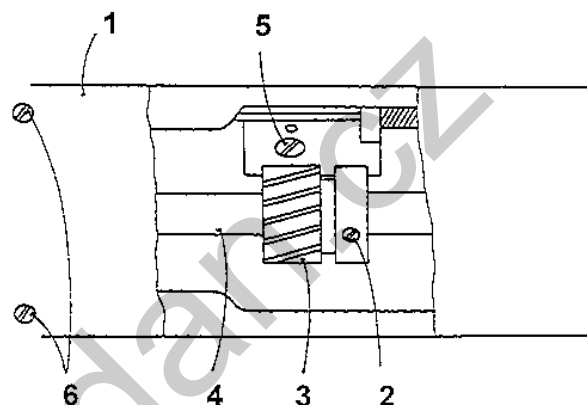
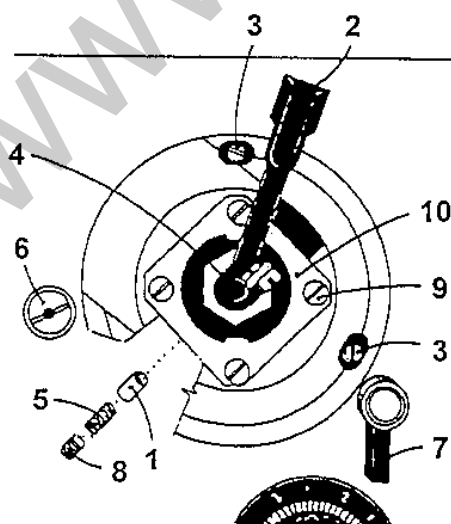
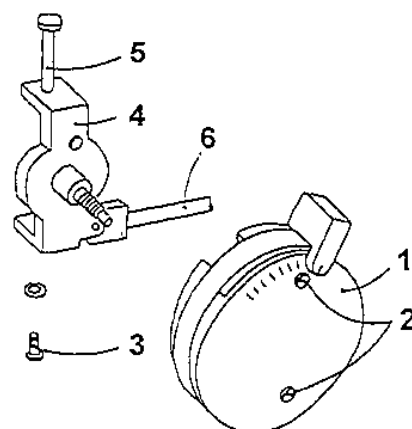

Fig. 11
Fig. 12
Fig. 13
18. To adjust the needle bar lateral movement (Fig. 11)
19. To adjust the control force required for stepless adjustment of the zigzag stitch width (Fig. 12, 13)
For the stepless tilting of the zigzag stitch bracket, the inlay (10, Fig. 12) of the body of the zigzag stitch mechanism contains the braking roller (1) with the spring (5) and with the adjustment screw (8). Turning the screw to the right increases the pressure exerted on the roller and, consequently, the force required to adjust the stitch width. A mechanism actuated by the lever (7) serving to fix the adjusted stitch width must be turned to the left prior to proceeding to the stitch width adjustment which is carried out by the lever (2) whose extreme left position, defined by a stop, produces the zero zigzag stitch width that can be increased up to 10 mm by displacing the lever to the right. The number marking on the cover (1, Fig. 13) shows the approximative stitch width value at each lever position.
To adjust the control force, first take the complete zigzag stitch mechanism out of the machine arm column. For this purpose, screw out the two screws (2) from the body of the mechanism, remove the cover (1), screw out the three attachment screws (3, Fig. 12) from the body of the zigzag stitch mechanism, then screw out the securing screw (3, Fig. 13) on the pin (5), remove the pin from the guiding (4), loosen the fixing lever (7, Fig. 12) and take the pin (6, Fig. 13) out of engagement, thus releasing the body of the zigzag stitch mechanism that can be then taken out of the machine arm. For the assembly, proceed inversely.
20. To adjust the tooth play of the zigzag transmission mechanism (Figs. 11, 12)
The tooth play of the zigzag stitch transmission mechanism is actuated by the eccentric pin (6, Fig. 12). To adjust the tooth play, first screw out the four attachment screws (6, Fig. 11), remove the upper cover (1), and loosen the screw (5) located in the lug of the machine arm. By turning then the eccentric pin (6, Fig. 12) adjust the tooth play of the zigzag transmission mechanism, i. e., between the complete cam and the gear wheel (3, Fig. 11) mounted on the upper shaft (4), then lock the adjusted position by thoroughly tightening the screw (5).